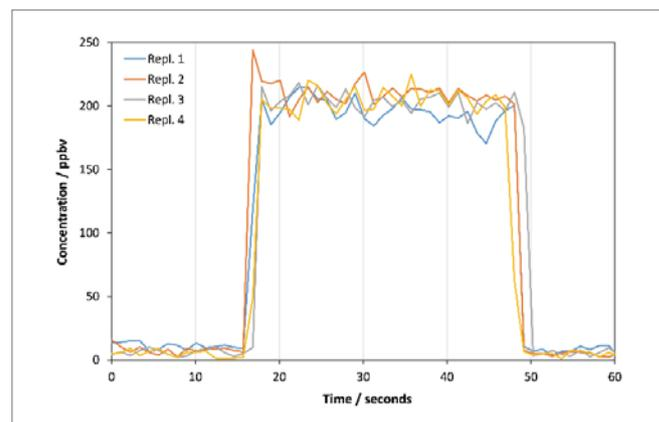

Figure 2. Rapid, replicate analyses of formaldehyde direct from a Tedlar sample bag using automated SIFT-MS.
source have been studied by Lubin et al., who compared the signal intensity obtained by ESI and UniSpray for small pharmaceutical compounds (16 analytes in positive ion mode and 7 in negative ion mode) with acidic, basic and neutral mobile-phase types (1). Figure 2 shows the signal gains (UniSpray ion intensity divided by ESI ion intensity) obtained at various mobile-phase compositions and for three different flow rates. Here, each point is an average of the pooled data for each compound and each mobile-phase type. From these plots it can be concluded that the signal intensity observed with the UniSpray source is higher on average than the ESI signal for all mobile-phase compositions, with the greatest gains seen under highly aqueous conditions. UniSpray gains in excess of  $\times 20$  were observed under certain conditions, but
Figure 2 – A comparison of the average signal intensity ratios for UniSpray and ESI versus mobile phase composition for 16 positive ion analytes and 7 negative ion analytes (from reference [1]).
Formaldehyde analysis using SIFT-MS is highly repeatable. Figure 2 shows four replicate injections of a 200-ppbv formaldehyde gas standard taken from a Tedlar sampling bag. The mean concentration reading was 203 ppbv with an RSD of 2.6 percent.